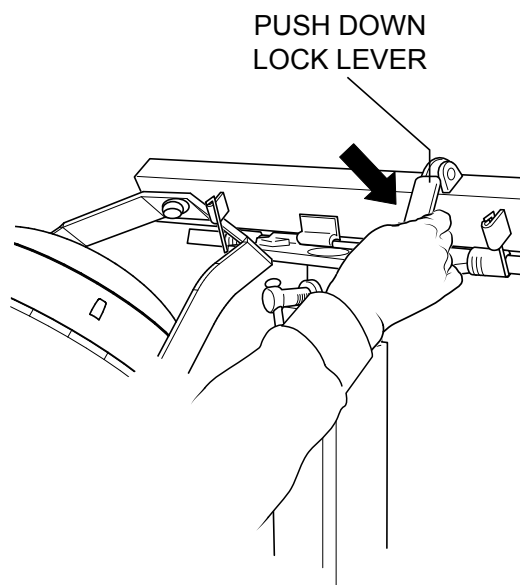

Figure 18. Locking Lamp Stand
5. After lighting unit has been completely pushed down, push down fold lever (Figure 18) to lock the lamp stand in place.